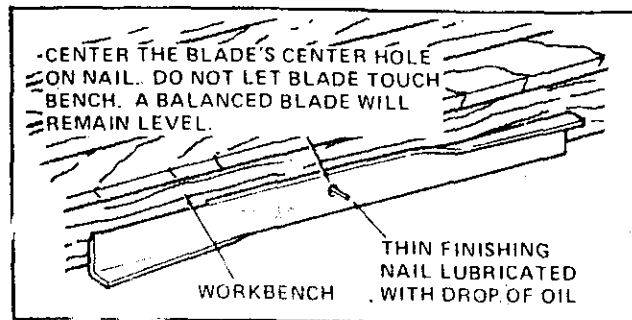

FIG. 8
- To check and balance blade use a balancing machine or fixture as shown in figure 8. File material off heavier end of blade until it is balanced.